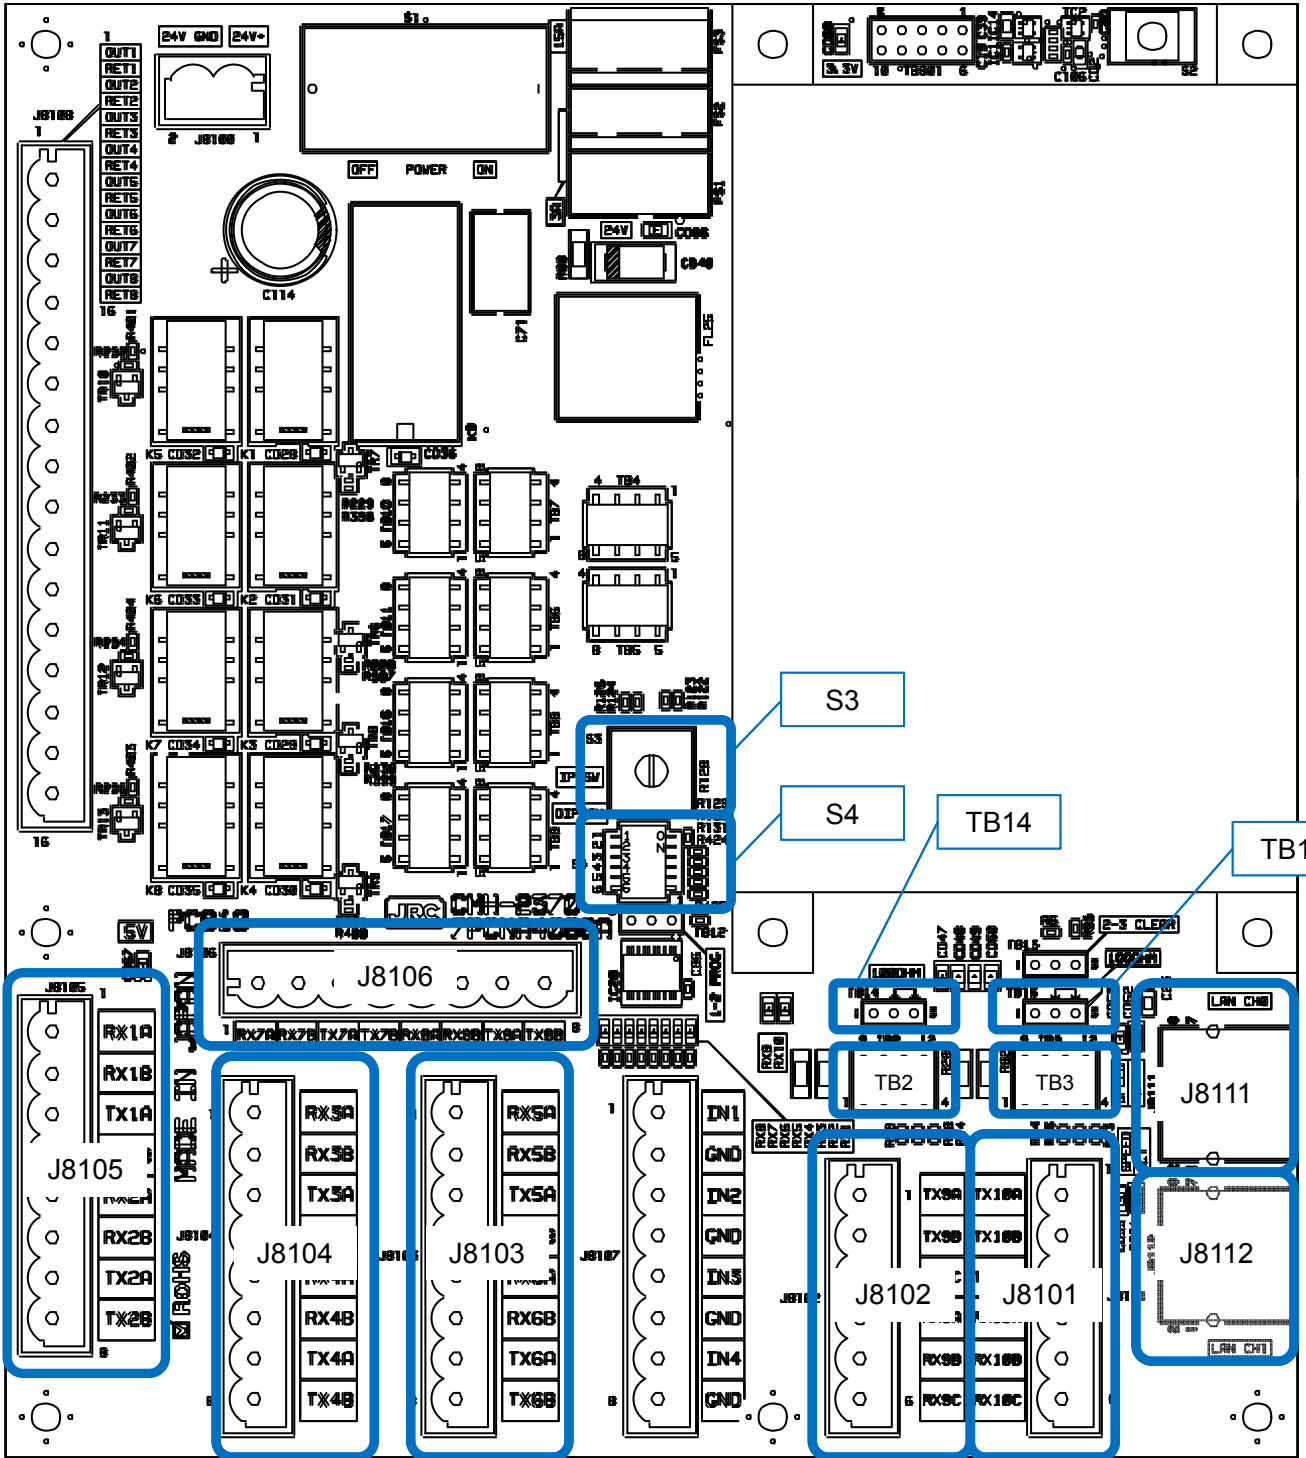

Fig. 2.5.5 Connector location of CMH-2370 Serial LAN interface circuit
- See **Fig. 2.5.5** Connector location of CMH-2370 Serial LAN interface circuit about location of J8101-J8102 on CMH-2370.
Note: The location of TB2, TB3, TB14, TB15, Refer to **Fig. 2.5.5**.
The location of J8111, J8112 and S4, refer to **Fig. 2.5.5**
The location of S3, refer to **Fig. 2.5.5.**